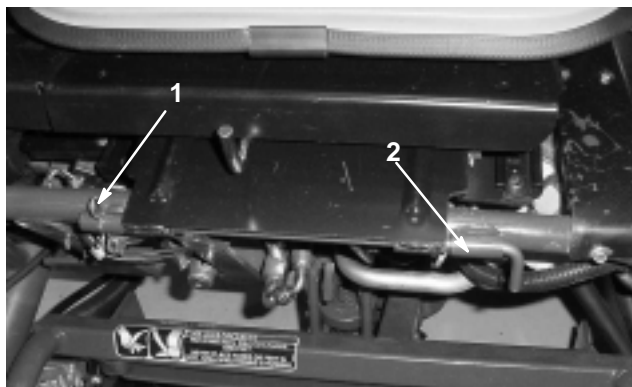

Figure 8
8. Install the seat assembly in the operating position (Fig. 8). Install the seat pivot rod and cotter pin.